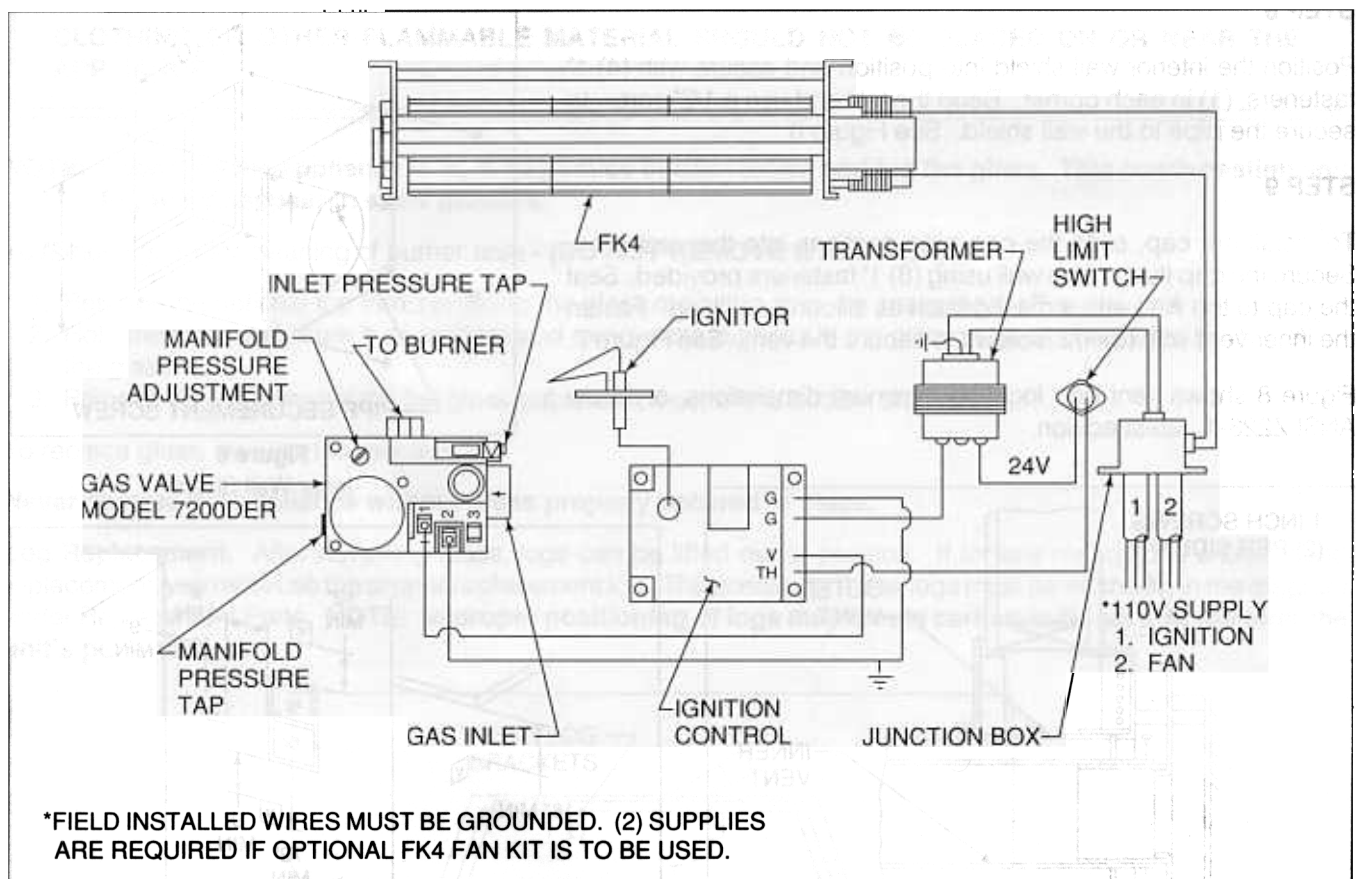

Figure 9
Remote wall switch hook-up should be installed in a convenient location. Follow Figure 9 for wiring diagram. This appliance requires a 110V power supply. If an optional FK4 Fan Kit or RC5 Remote Control Kit are to be used, wiring should be done at this time. The appliance must be electrically wired and grounded in accordance with local codes or, in the absence of local codes, with National Electric Code ANSI/NFPA 70-latest edition. Wiring diagrams are provided with these accessories and in Figure 9. This appliance is not intended for use with a thermostat.
LIGHTING PROCEDURE (See Figure 9).
B. No ground.	Check that wiring is grounded as shown in Figure 9.